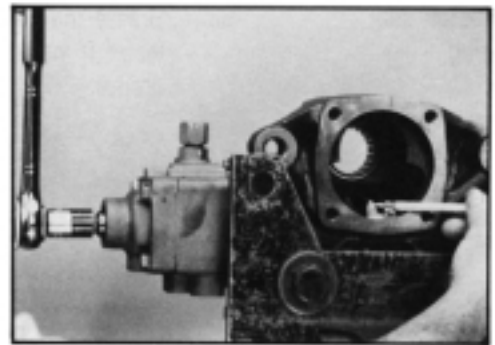

Figure 155
48. There are five full teeth on the rack piston (39). SEE FIGURE 154. Rotate the worm shaft (23) to position the center rack piston tooth (third tooth from large end) in line with the center of the housing sector shaft bore. SEE FIGURE 155.